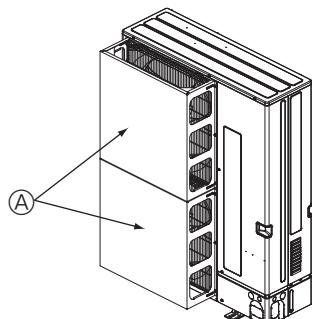

Fig. 3-3
- Install an optional air guide if the unit is installed in a location where strong winds from a typhoon, etc. may directly enter the air outlet. (Fig. 3-3)